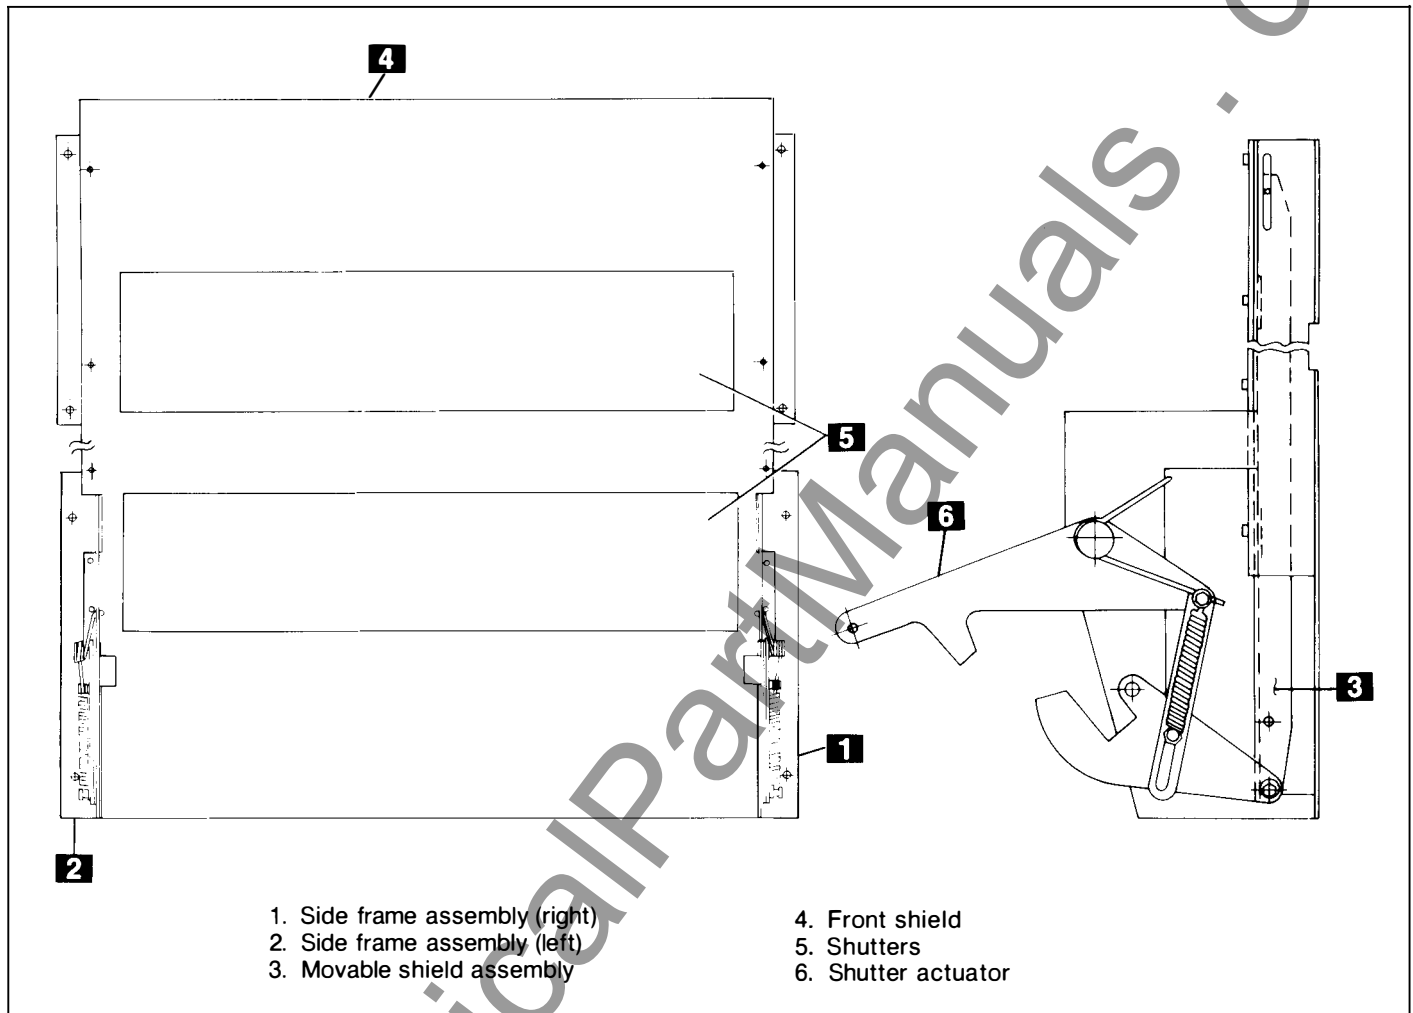

Fig. 7-9. AKD-8 circuit breaker shutter unit (AKR-75/100 breakers)
2. Take out four ¼-inch hex head screws on each side of the frame. A socket wrench with a ⅞-inch driving head with 8-inch extension will be needed. See Fig. 7-9.